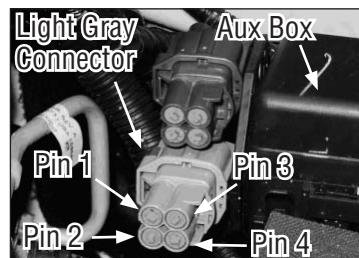

Figure 33
4. Light Gray 4 PIN Connector (**Fig. 33**)